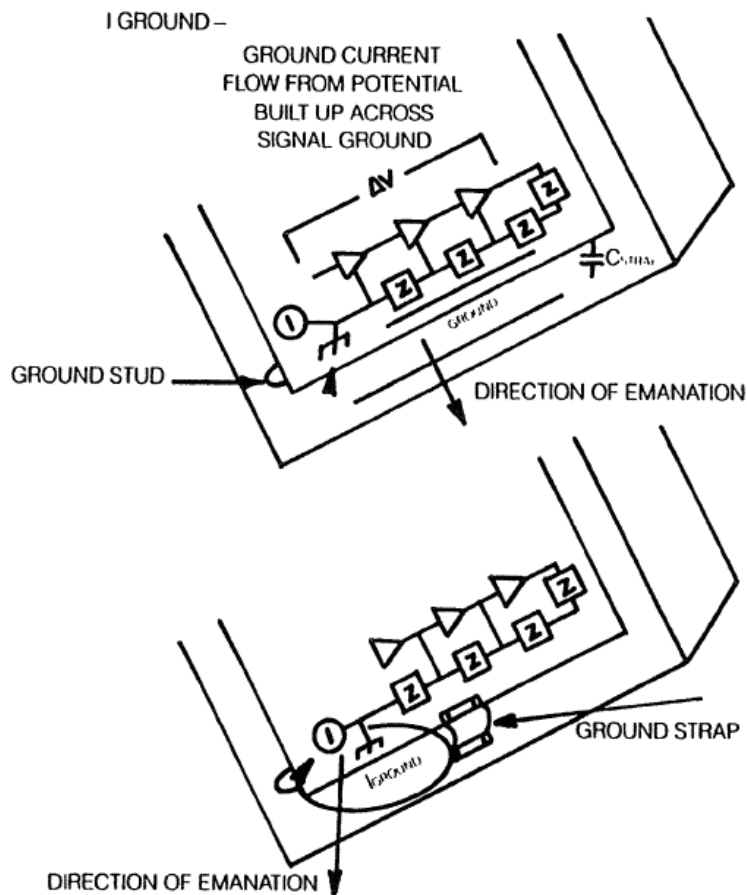

Figure 2-10. Changing the Geometry of Ground Straps
1. The first step in each procedure is to choose a set of points; for example, two to six points. Since the object is to determine what the far-field results will be, most of the points should be one to four meters away. Also, choose one or two points close to the source. If a solution results in a dramatic reduction, this point may be the only one that will allow quantitative measurement of the reduction (Figure 2-10 on page 2-15).